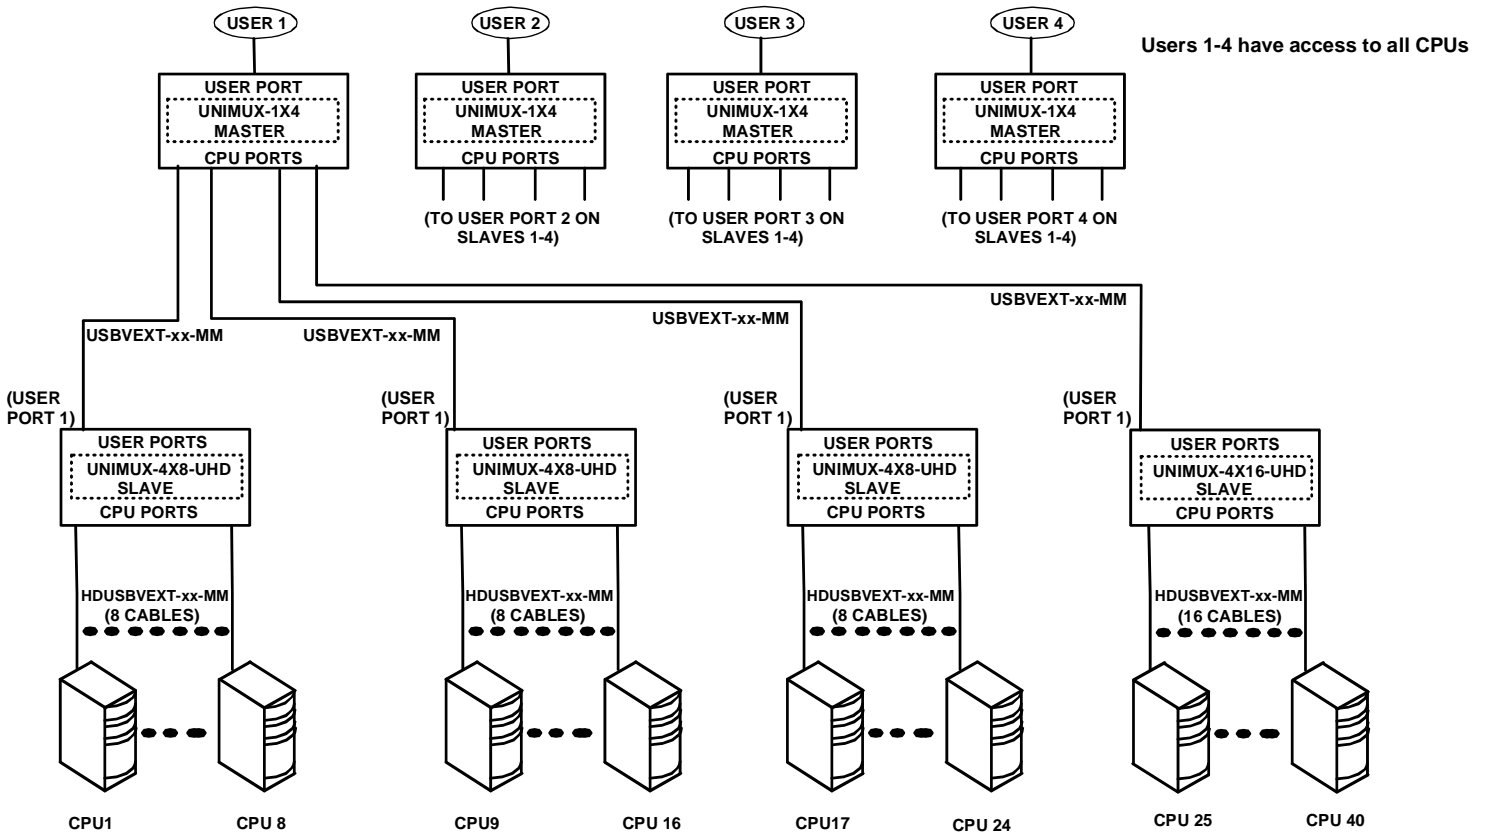

Figure 49- Cascaded configuration with single-user masters
**Exception:** If the master is a single user UNIMUX switch, slaves connected downstream can be any size multi-user UNIMUX switch (see Figure 49).